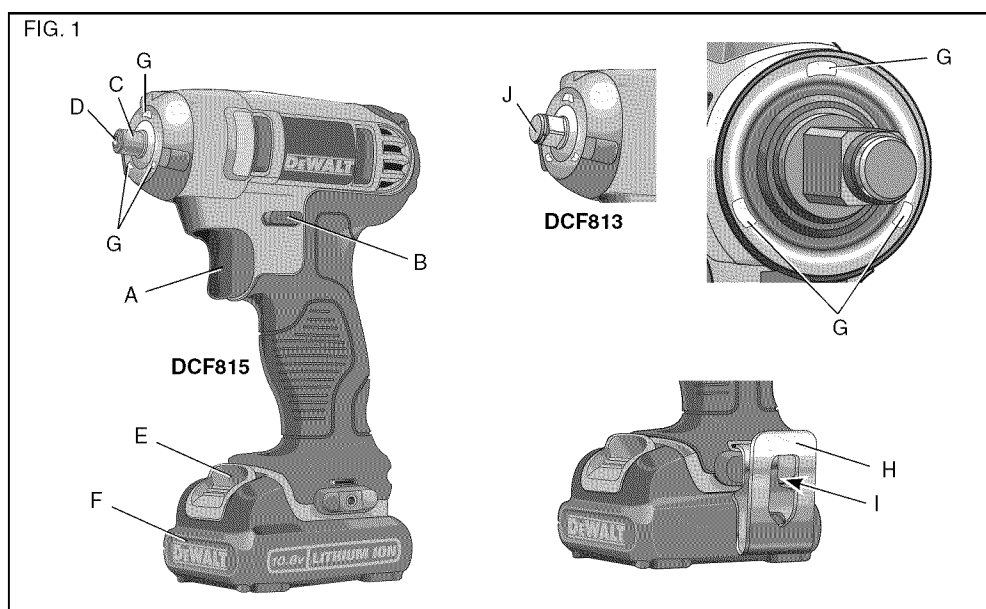

FIG. 2
Charging Procedure (Fig. 2)
2. Insert the battery pack (F) into the charger, as shown in Figure 2, making sure the pack is fully seated in charger. The red (charging) light will blink continuously indicating that the charging process has started.